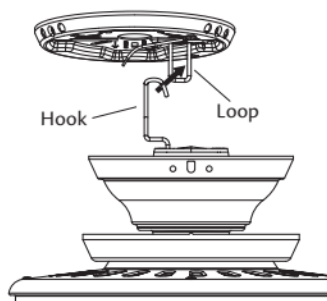

Figure 16 - Hanging the fan
1. Raise the fan and place the hook through the loop on the ceiling plate as shown in Figure 16. Use the note and arrow engraved in the ceiling plate to assist in determining the direction to assemble.